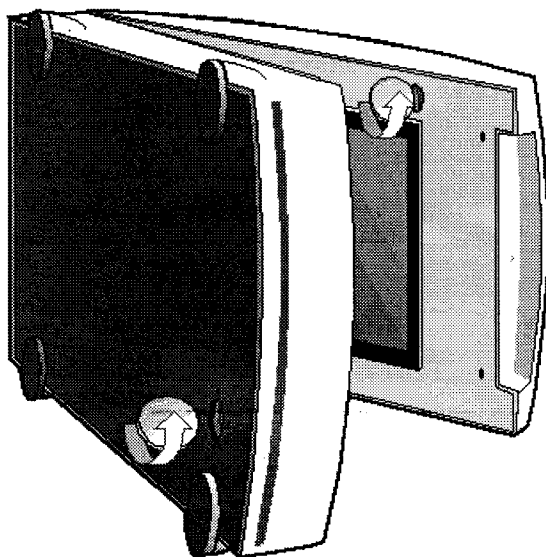

Fig. 2.2 Unlocking the densitometer and the transparency module.
2. Unlock the locking screws by rotating counter-clockwise with a small coin (Figure 2.2). The screw pushes out a small distance, nearly even to the bottom of the densitometer and the transparency module.